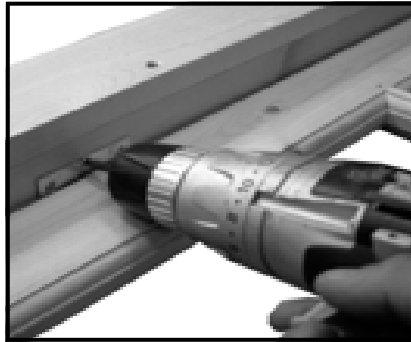

Fig A14
23. Secure the window to the panel using 3x 25mm screws per hinge, (fig. A14) again through the predrilled holes in the hinge.